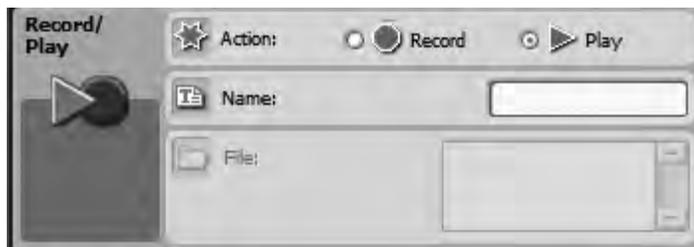

Figure 5-7. Configure your robot to play back the recorded movement.
It's so easy, you're going to laugh. Create a new program, and drop in a RECORD/PLAY block. This time, however, select the Play option in the Action section (see Figure 5-7).
■ **Note** If you have your NXT Brick connected to your computer via the USB cable, any files stored on the NXT that you created using the RECORD/PLAY block will appear in the File section seen in Figure 5-7. Rather than type the name of the file, you can select it from the list. If you do not have your NXT Brick connected, you will need to remember the name of the file and type it in the Name section.